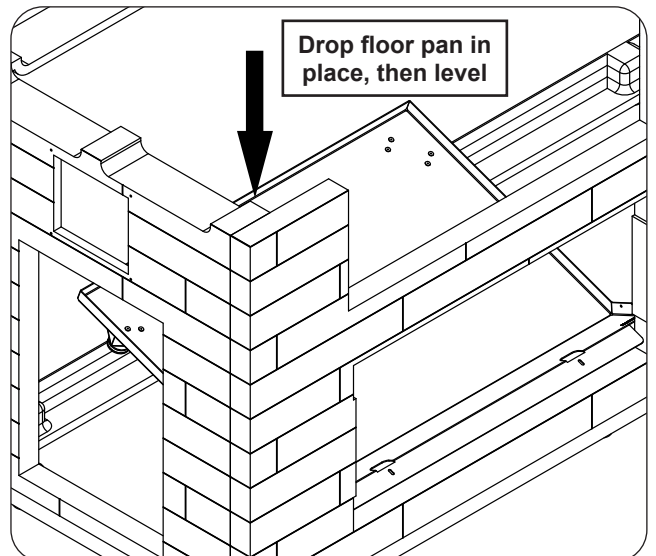

Fig. 11-3 Place floor pan
1. Place floor pan into the double door cutout as shown (see Fig. 11-3).